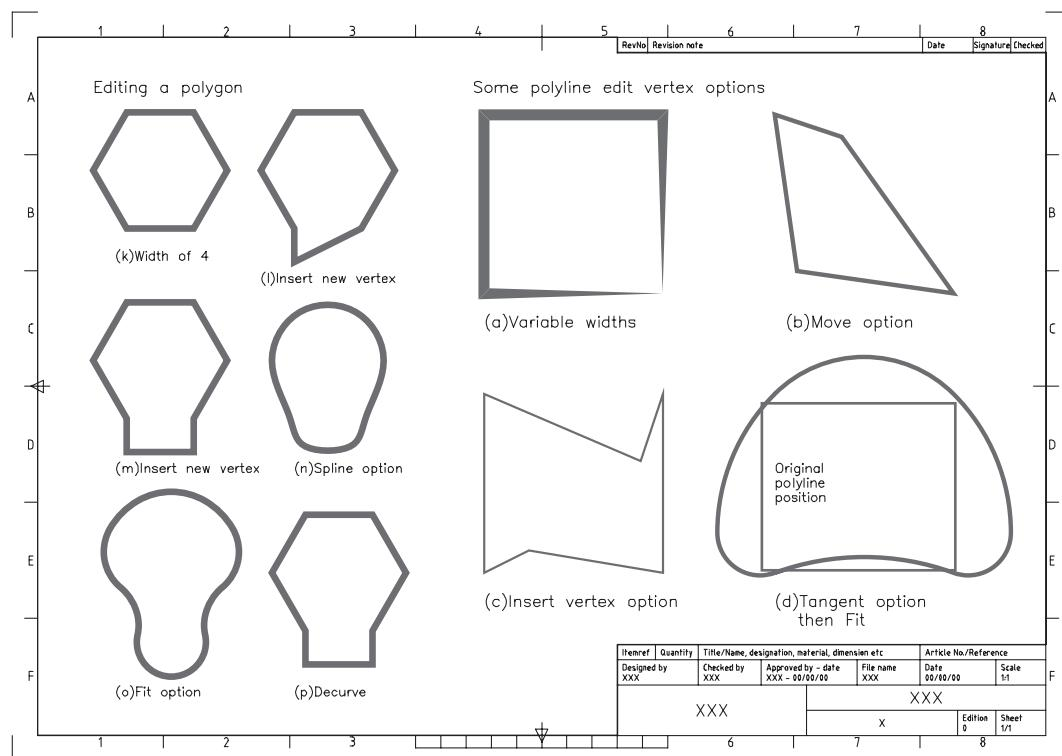

Figure 20.5 The polyline edit vertex option and editing a polygon.
- 3 When E is entered as an option, the user has another set of options. Refer to Figure 20.5 and:
then **X <R>** – to exit the edit polyline command – Figure 20.5(a).
enter **X <R>** then **X <R>** – Figure 20.5(b).
then **X <R>** and **X <R>** – Figure 20.5(c).
then **X <R>** – to end command and give Figure 20.5(d)